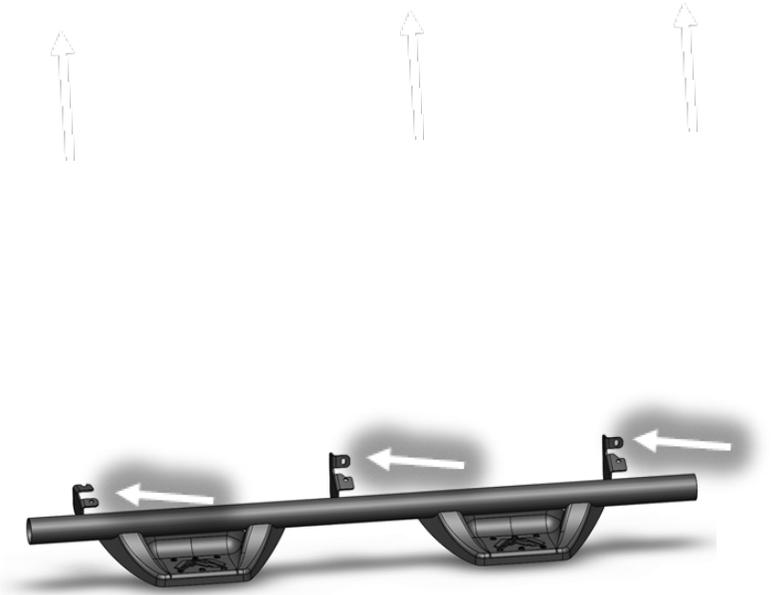

Figure 2
6. Loosely install three (3) M10 yellow zinc hex bolt with clear zinc lock and flat washers to the top hole on each bracket (22179) (50226-HW). (Figure 2)
7. Loosely install the three (3) M10 yellow zinc hex bolt with clear zinc lock and flat washers to the remaining lower bolt holes on each bracket (22179)(50226-HW)